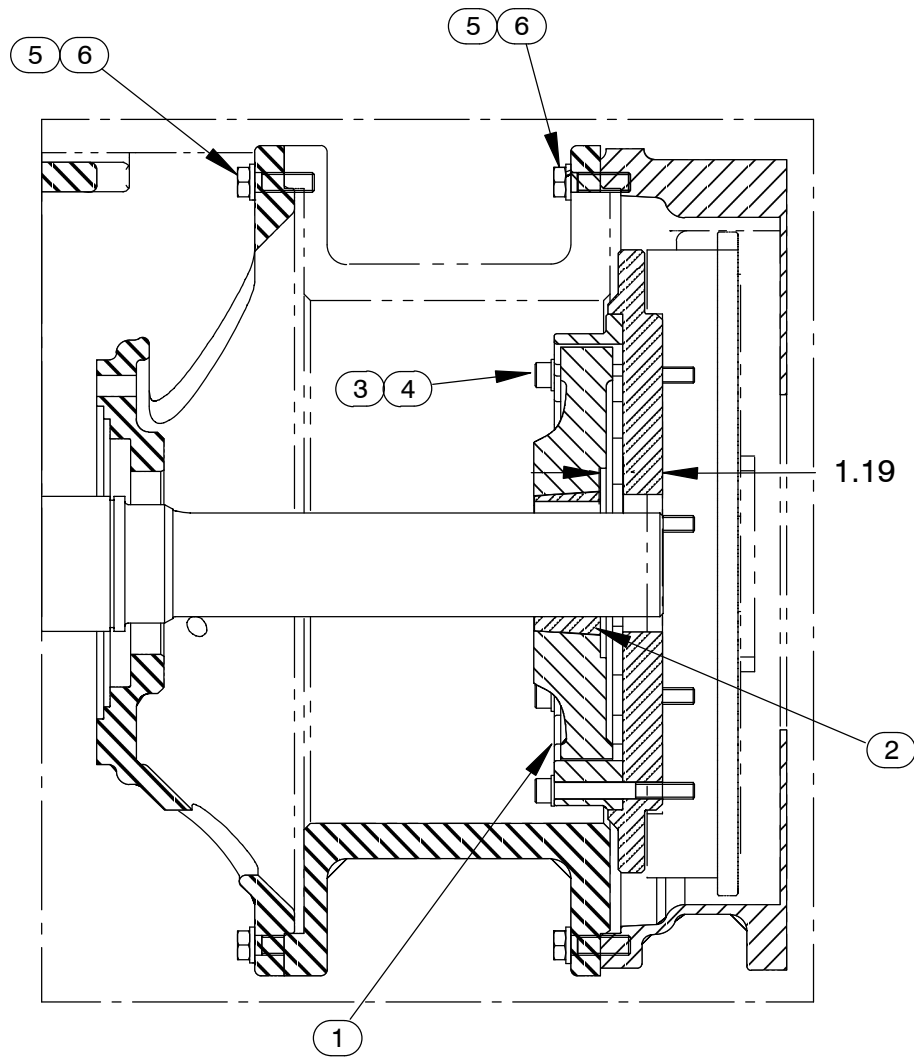

Figure 8. Drive Assembly
(Figure 8)
As the assemblies separate, the flexible portion of the coupling assembly (1, Figure 8) will remain on the shaft. To remove the coupling from the shaft, unscrew the two allen head setscrews from the bushing. Screw one of the setscrews into the puller hole on the circumference of the bushing. As the coupling and bushing separate, remove the bushing, and slide the coupling off the shaft. Remove the shaft key (28, Figure 4).